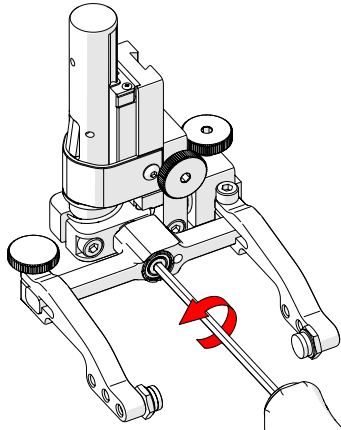

Fig. 93 - Unscrew yoke pivot screw
2. Using the supplied 3 mm hex driver (Fig. 40), unscrew the yoke pivot screw and remove the yoke (Fig. 93).